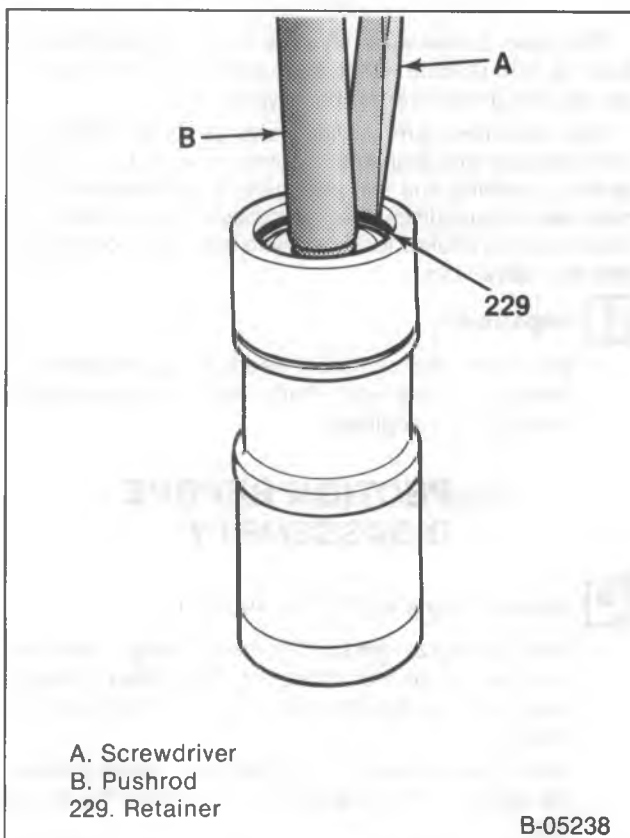
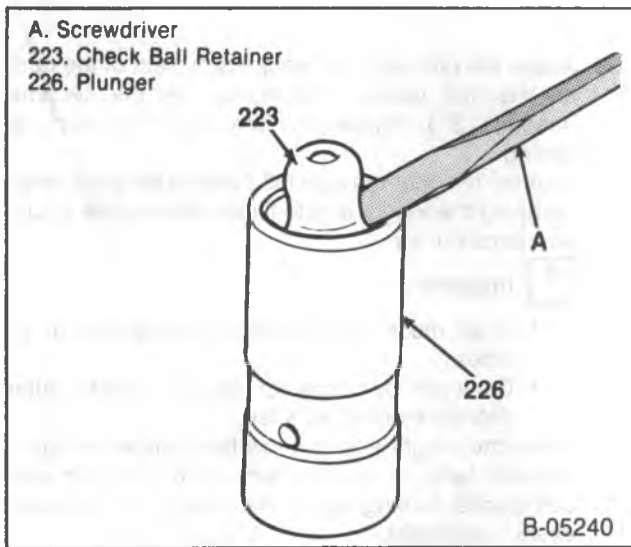

Figure 25—Removing the Retainer (Typical)
Figure 26—Removing the Check Ball Retainer (Typical)
1. Retainer (figure 25).
- Push the pushrod seat (228) down, using a pushrod.
2. Pushrod seat (228).
3. Metering valve (227).
4. Plunger (226) and plunger spring (222).
5. Check ball retainer (223), check ball spring (224), and check ball (225). Pry the check ball retainer from the plunger, using a small screwdriver (figure 26).